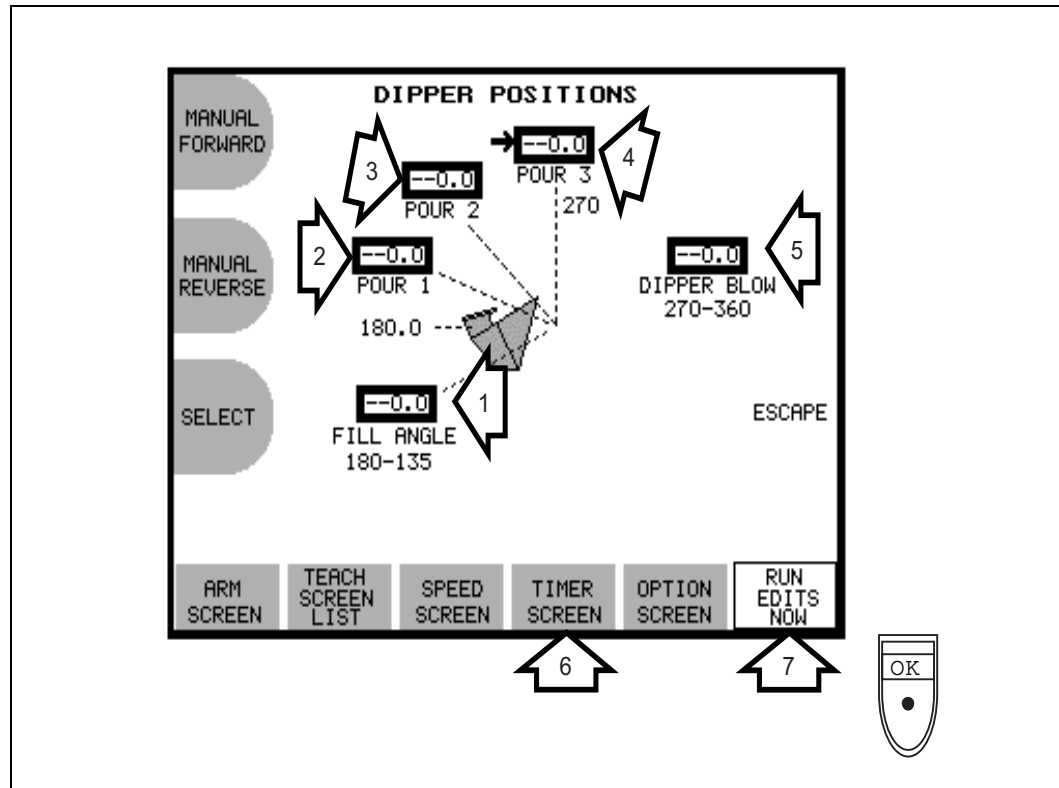
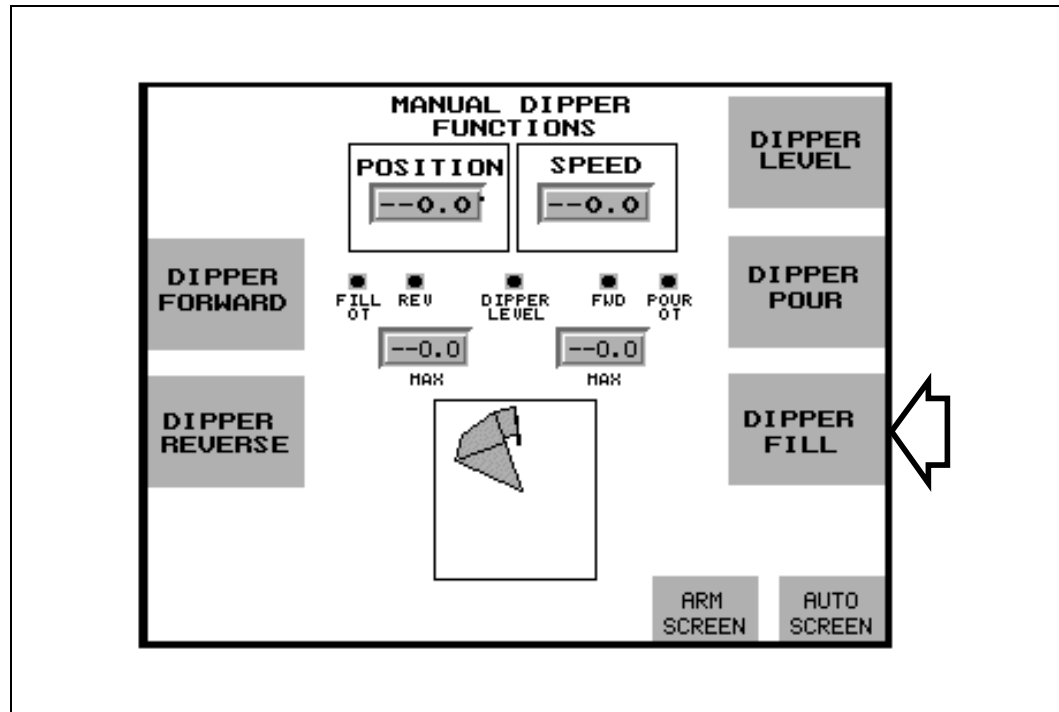

Figure 7-16: Dipper Positions Screen
Figure 7-22: Manual Dipper Functions Screen
14. Press the **DIPPER SCREEN** key (#8). The Dipper Positions Screen displays (Figure 7-16).
15. Use the following Fill Angle Chart (Table 7-1: Fill Angle Chart, page 7-18) to determine the fill angle required for the amount of metal to be used in the shot. Enter the value in the Fill Angle field (#1 on Figure 7-16) using the **SELECT** key to obtain an arrow on the field and the alpha/numeric keypad to enter the position numbers. Press the **OK** key.
7. Manually move the arm back to the metal as determined in step 15. Press **Main>Control>DIPPER SCREEN** to access the Manual Dipper Functions Screen (Figure 7-22). Use the **DIPPER FILL** key (Figure 7-22) to fill the dipper with metal. The dipper can also be positioned at the Fill Angle automatically by pressing the **RUN EDITS NOW** key (#7 on Figure 7-16) and then pressing and the **DIPPER FILL** key on the Manual Dipper Functions Screen (Figure 7-22). The dipper cup should now be filled with the proper amount of metal.